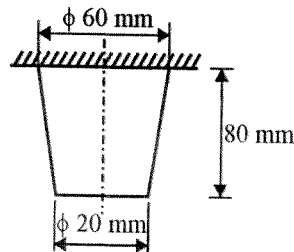

Fig. 1
11. Write the load vector, stiffness matrix and d.o.f. vector for the suspended tapered bar. Consider two elements. (Fig. 1)